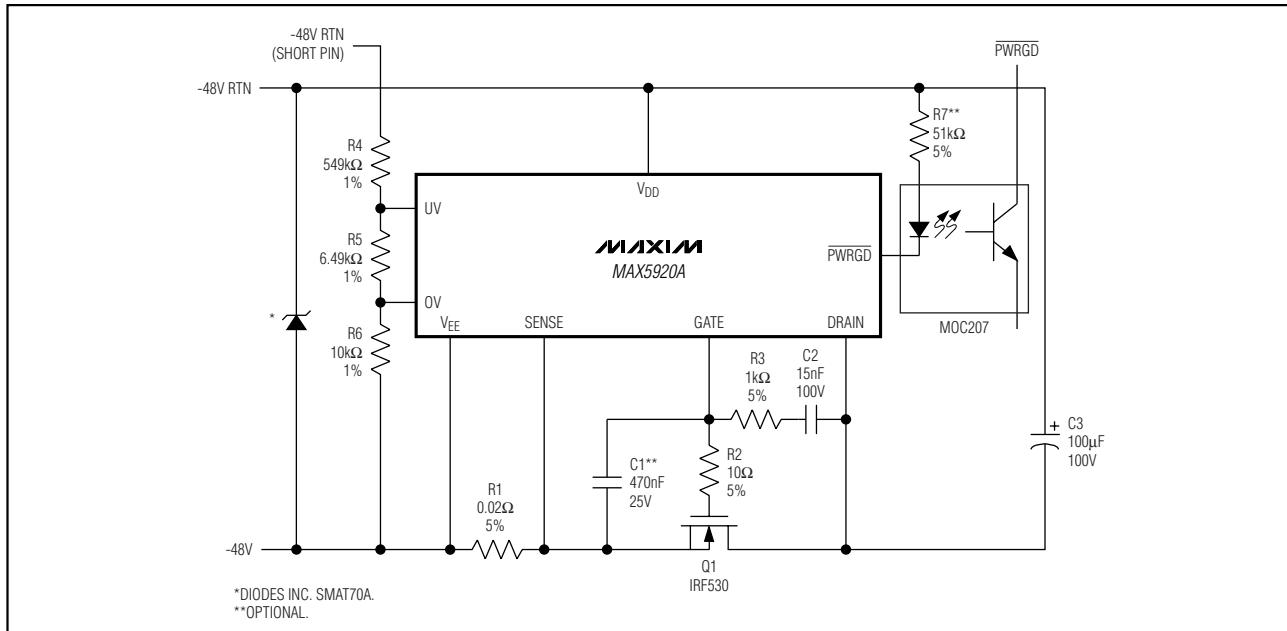

Figure 14. Using \overline{PWRGD} to Drive an Optoisolator
The PWRGD signal can also be used to turn on an LED or optoisolator to indicate that the power is good (Figure 14) (see the *Component Selection Procedure* section).
- If an optocoupler is utilized as in Figure 14, determine the LED series resistor: